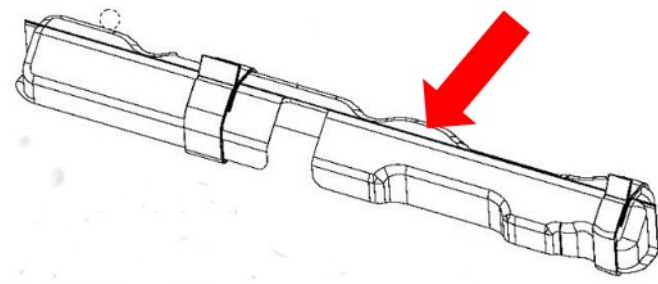

Fig. 1
2. Remove the fuel rail injector covers (Fig. 1) .